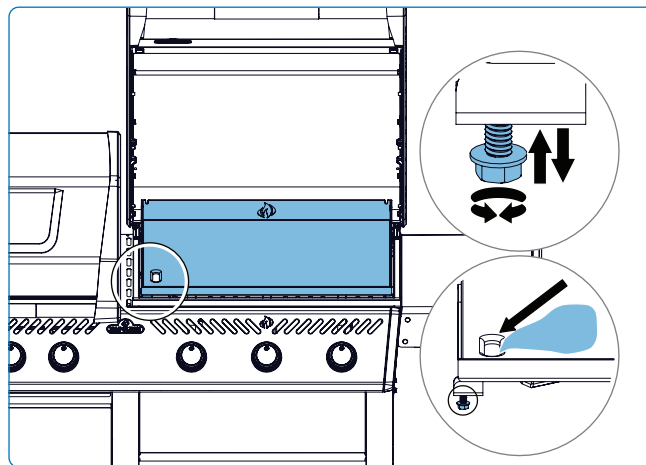

Fig. 19
1. Locate the adjustment screw at the front-left corner of the appliance (**Fig. 19**).